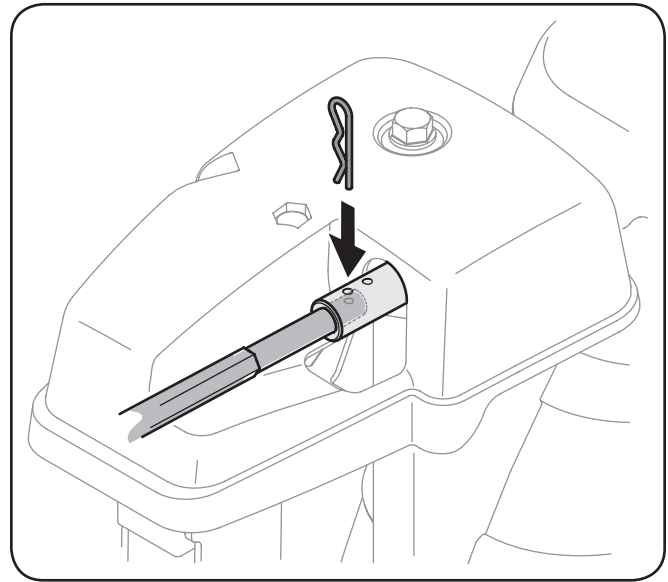

Figure 6-8
2. Pull out the chute control rod until the hole in it lines up with the second hole in the chute rotation assembly. See Figure 6-8.
3. Reinsert the cotter pin through this hole and the chute control rod. See Figure 6-8.